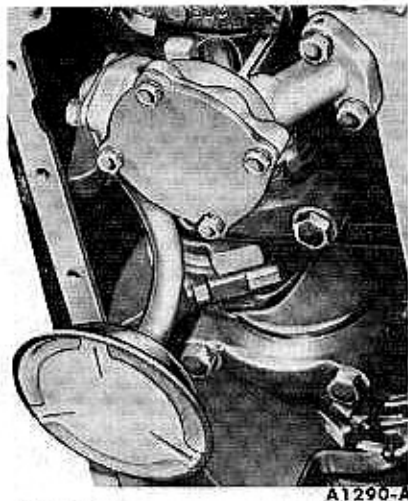

FIG. 49—Oil Pump and Inlet Tube Installed
3. Position a new gasket on the pump housing and install the pump and shaft as an assembly (Fig. 49).